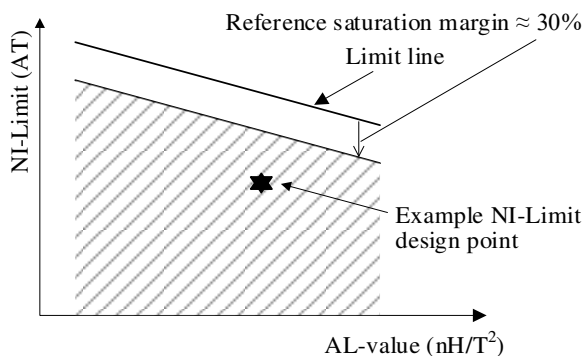

Figure 9-2. Example of NI-Limit vs. AL-value Characteristics
For proper transformer designing, the following should be taken in to account when you choose the AL-value of a ferrite core used in your transformer: the value of NI-Limit(AT) (= $N_P \times I_{\text{DP(DLY)}}$) calculated from the primary winding, N_P , and the peak drain current, $I_{\text{DP(DLY)}}$. To avoid transformer saturation, take variations in temperature and in other parameters into account, and choose a ferrite core with a calculated NI-Limit value that ensures a margin of $\geq 30\%$ to the upper saturation limit defined by the NI-Limit(AT) vs. AL-value graph (i.e., within the hatched area in Figure 9-2):